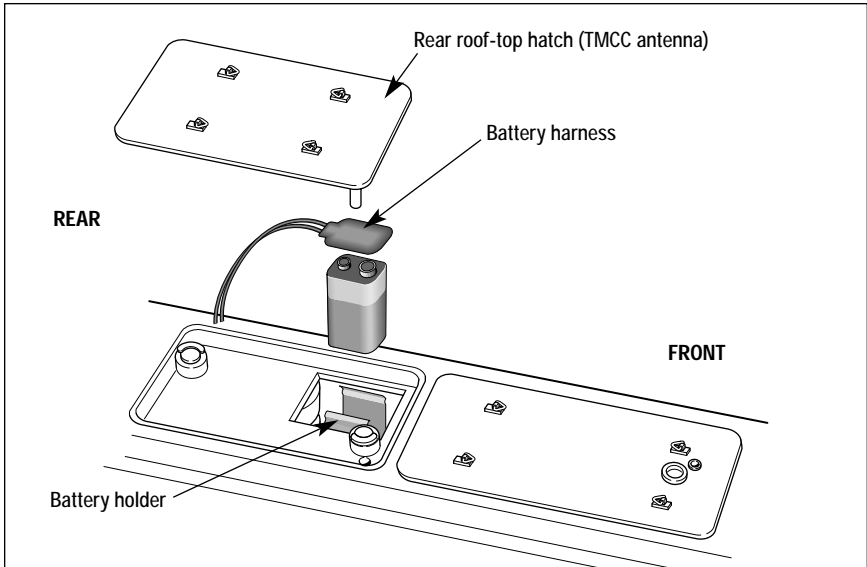

Figure 4. Battery installation
**A**lthough the RailSounds sound system is powered through the track, we recommend that you install a nine-volt alkaline battery to prevent the sound system from shutting down during track power interruptions (for example, at a switch or a dirty section of track). Follow these steps and refer to Figure 4 as you install the battery.